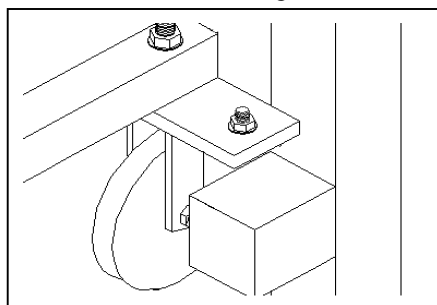
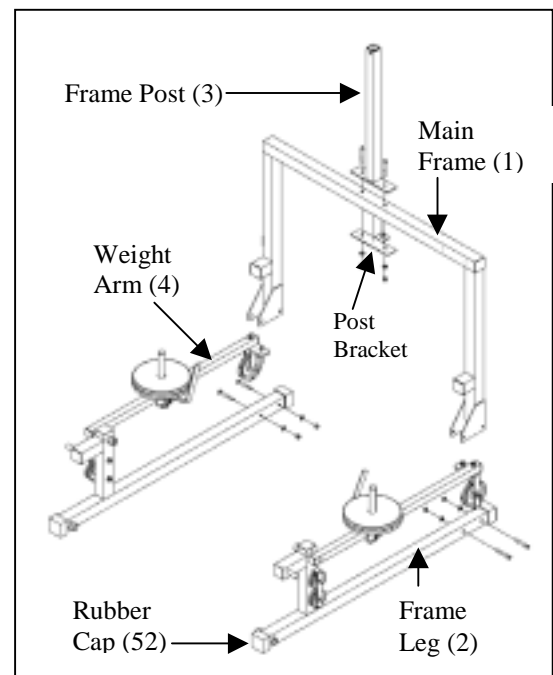

Figure 3
Figure 2
### A. Frame Assembly (Figures 2 & 3)
1. Lay the two *Frame Legs* (part #2) on the floor about 42" apart with the pulleys facing out. Ensure that the four heavy *Rubber Caps* (52) at the ends of the *Frame Legs* have not come loose during shipment.
2. Position the *Main Frame* (1) onto the *Frame Legs* (Figure 2), making sure the weight arm is resting on the *Main Frame*, not on the floor (Figure 3). Attach the *Main Frame* using the 3/8" *Hex Bolts* (48) and *Nuts* (42) provided.
3. Bolt the *Frame Post* (3) to the *Main Frame* (1) using the black button head bolts with the post bracket at the bottom of the U-Frame as shown in Figure 2.